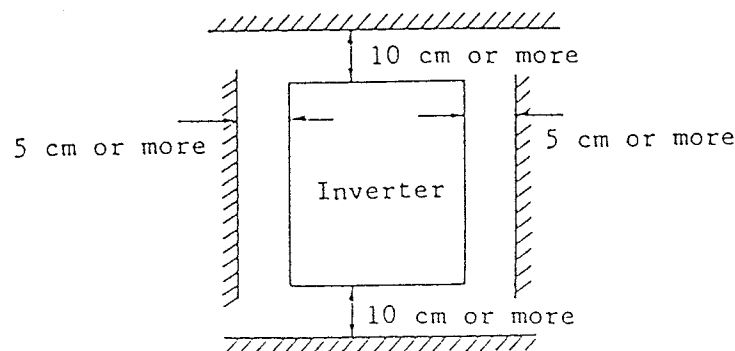

Figure 1 Installation of the Inverter
- (1) Install the inverter in a well ventilated place and leave space at least 10 cm at the top and bottom of the inverter and at least 5 cm on the right and left sides, as shown in Figure 1.
- (2) Install the inverter in a place free from dust, corrosive gases, and oil mists including cutting oil mists.
- (3) Install the inverter in a place not subject to excessive vibration. (Vibration should be 0.2 G or less.)
- (4) when the surface on which the inverter is to be installed is uneven, place plates under the installation leg. If the inverter is installed on an uneven surface, distortion caused by the unevenness is transferred to the main circuit elements and they may be damaged.
- (5) Leave space so that the cover can be opened or closed with ease during maintenance.
- (6) The inverter generates heat by approx. 5% of the rated capacity, so take care to maintain well ventilation when inverter is built in the box.